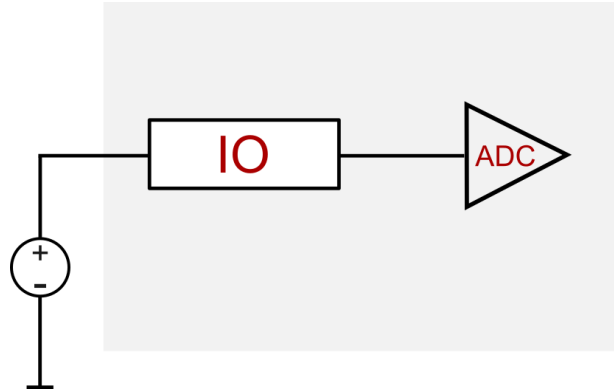

Fig. 3. Voltage measurement.
1. **Voltage measurement mode** (*default mode*), the functional diagram is shown in Fig. 3. In this mode you can measure the voltage level from the devices connected to the I/O lines (batteries, accumulators and other power sources).